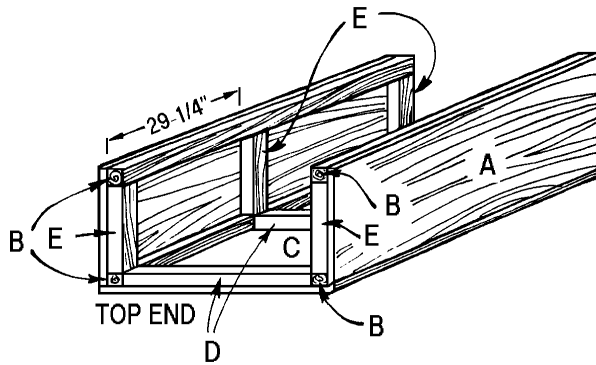
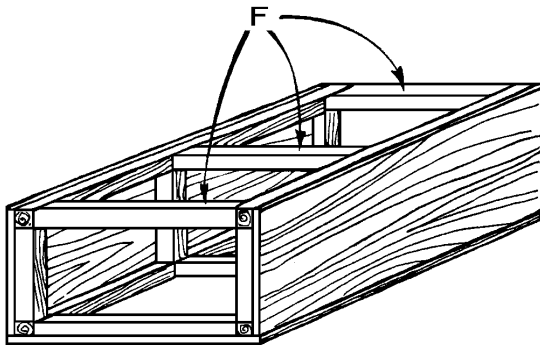

Figure 3
Figure 4
1. Cut three Back Horizontal Supports (D) from 2 x 2 pine, each 43-1/2 inches long.
2. Attach one Back Horizontal Support (D) between the Inner Vertical Supports (B) flush with the exposed edge of the top of the Back (C), as shown in *Figure 3*.
3. Attach a second Horizontal Support (D) positioned between the two inner vertical supports (B) and flush with the bottom edge of the back (C)
4. Measure 29 1/4 inches from what will be the top of the armoire, (it can be either end-now is when you decide), and attach the remaining Back Horizontal Support (D) between the two Inner Vertical Supports, as shown in *Figure 3*.
5. Cut three Side Horizontal Supports (E) from 2 x 2 pine, each 21 inches long.
6. Attach one Side Horizontal Support (E) between the Inner Vertical Supports (B), flush with the exposed top edge of the Sides (A), as shown in *Figure 3*.
7. Measure 29-1/4 inches from the top of the armoire, and attach the second Side Horizontal Support (E) between the two Inner Vertical Supports (B), as shown in *Figure 3*.
8. Attach the remaining Side Horizontal Support (E) flush with the bottom exposed edge of the Side (A).
9. Repeat Steps 5 through 8 to cut and attach three more Side Horizontal Supports (E) to the remaining Side (A).
10. Cut three Front Horizontal Supports (F) from 2 x 2 pine, each 43-1/2 inches long.
11. Attach one Front Horizontal Support (F) between the Inner Vertical Supports, at the very top of the Sides (A). Use glue and 3-1/2-inch long screws, screwing through the Side (A), through the Inner Vertical Supports (B), and into the end of the Front Horizontal Support (F). See *Figure 4*.